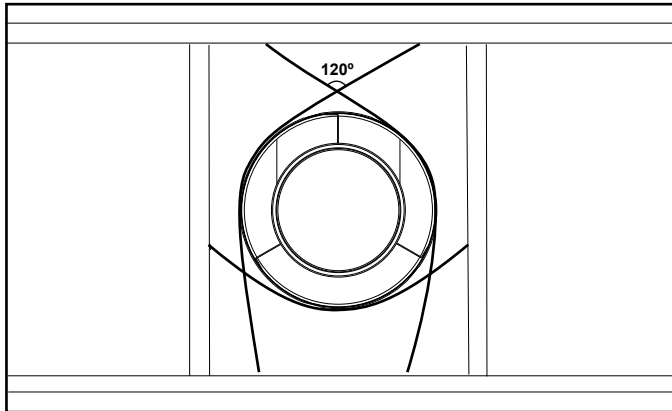

Figure 7.7 Securing Vertical Pipe Sections
- Vent supports or plumbers strap (spaced 120° apart) may be used to support vent sections. See Figures 7.7 and 7.8.
**Note:** Figures 7.7 and 7.8 are to be used for reference only. Method of strap installation could vary by configuration of vent system.